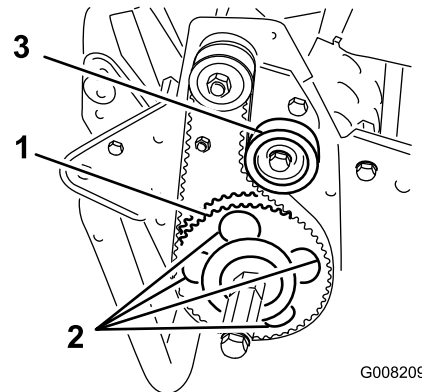

Figure 43
7. Rotate the driven pulley until the holes align with the 4 roller bearing flange screws (Figure 43).
11. Adjust the belt tension and tighten the idler pulley mounting screw (Figure 43).